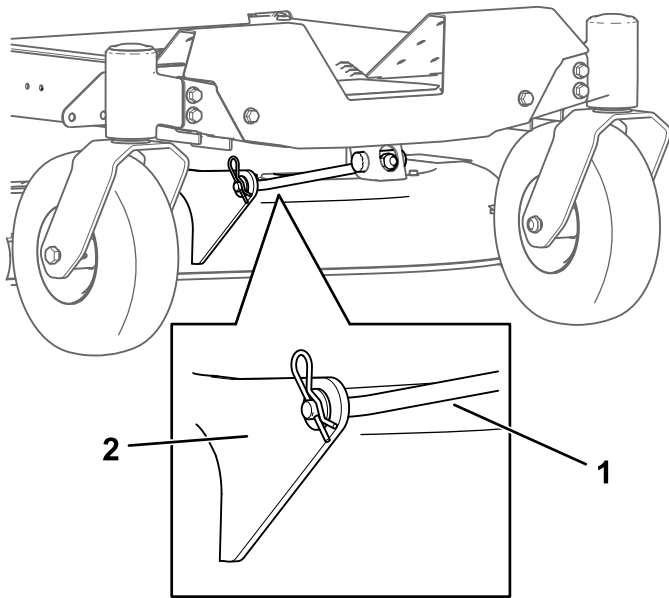

Figure 66
4. Remove the hairpin cotter from the front support rod, and remove the rod from the deck bracket (Figure 66).
- Attach the front support rod to the mower deck with the clevis pin and hairpin cotter (Figure 66).